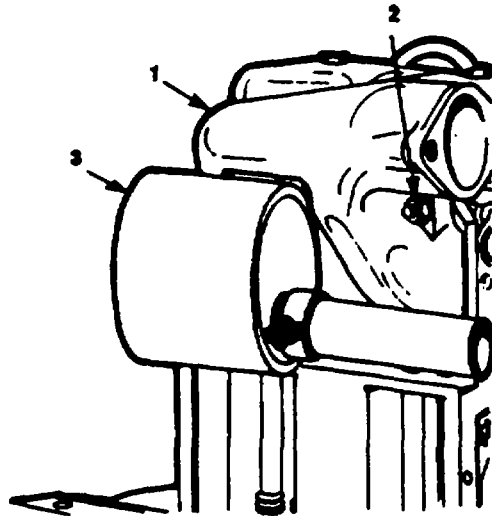

Figure 3-4. Intake and Exhaust Manifold Securing Bolts
- c) Check connections for air intake (1) and exhaust (3) manifolds to cylinder heads for tightness and retighten bolts (2), if necessary. See figure 3-4.